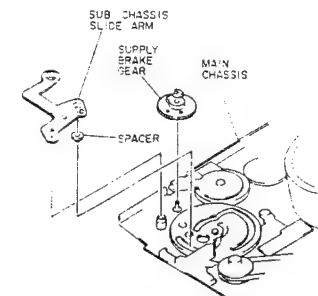

Fig. 2-62
- 1) Pull out the sub chassis slide arm and spacer from the main chassis. (See Fig. 2-62)
(2) Supply Brake Gear
- 1) Pull out the supply brake gear from the main chassis (See Fig. 2-62)